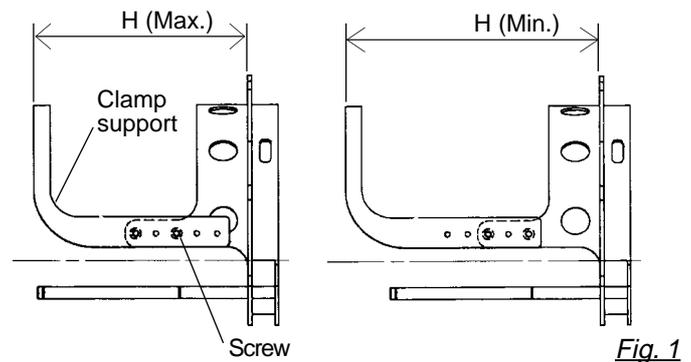

Fig. 1
14. As shown in Fig. 1, manually move the X carriage back and forth to ensure that it moves freely throughout its range of movement without catching. There may be some additional resistance but the frame should not be difficult to move. If you have a problem, start over from the beginning.
1. Adjust position of clamp support to the height of the cap. (Fig. 1)